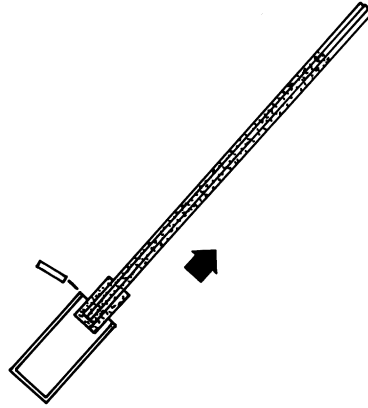

Figure 5.
9. Detach the snap-cap vial from the bottom of the casting cylinder and gently pull the bundled tubes from the vial (Figure 5).